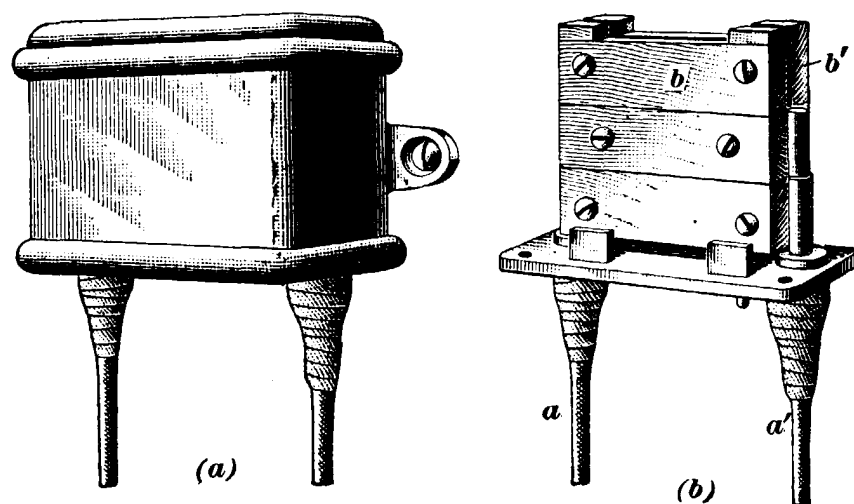

FIG. 27.
23. Westinghouse Arresters.—Fig. 27 shows the Westinghouse car lightning arrester; (*a*) shows the arrester with the iron cover on and (*b*) with the cover off. The